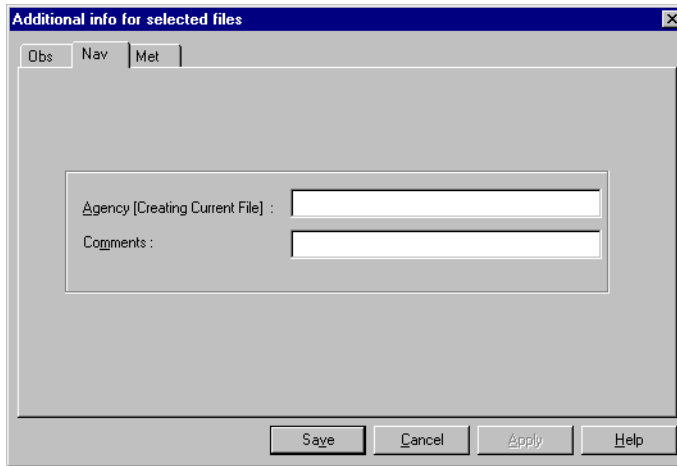

Figure 7.14: Additional Info for Selected Files Dialog Box - NAV Tab
12. Click **Nav** to switch to the **Nav** tab (Figure 7.14).